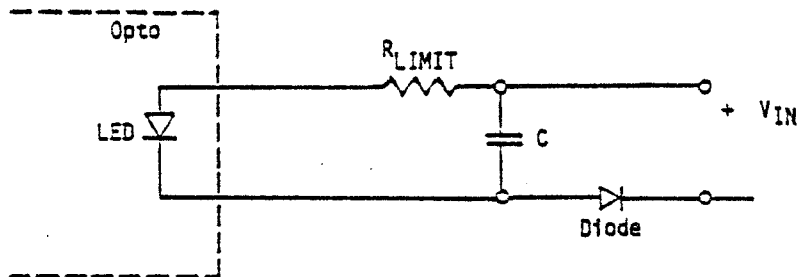

Figure 3-6. Pulse Stretching Capacitor
When the input voltage to the network (V_{IN}) is a pulse less than 20 microseconds in duration, the switching time of the opto-isolator may be too slow to react to it. To add flexibility to the inputs so that short pulses can be detected, pads are provided to form a pulse stretching capacitor (C) as shown in Figure 3-6.